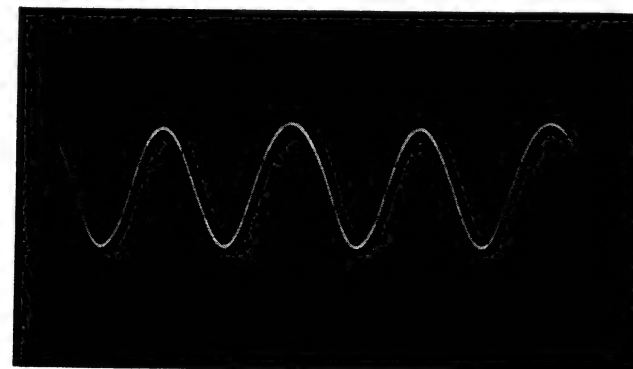

Figure 26 Symmetrical sinewave
- Fine-tune the generator for symmetrical sinewave on the oscilloscope (figure 26). The frequency thus found is now used for the further adjustments.